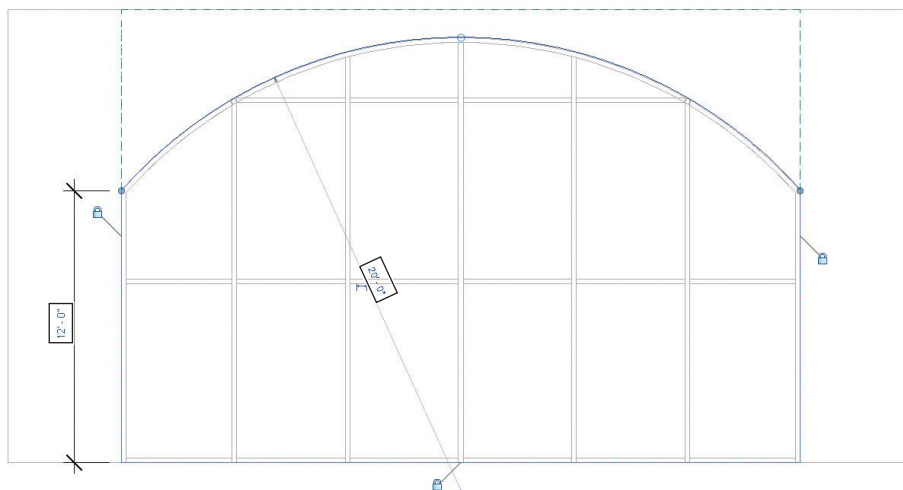

FIGURE 2.25 Modifying the sketch lines
2. In the ribbon, click Edit Profile, and modify the sketch of the curtain wall as shown in Figure 2.25. Remember, you need to switch to an elevation or 3D view to edit the sketch of a wall.